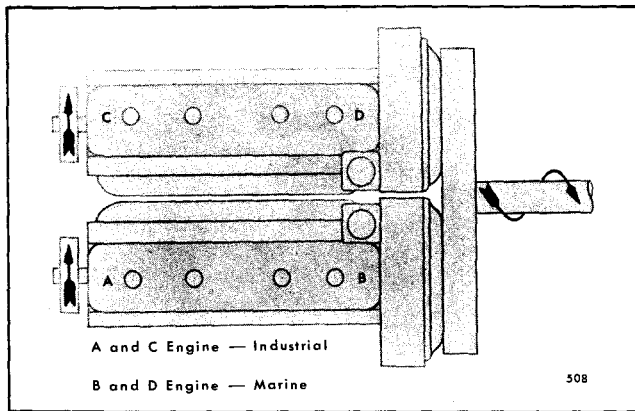

Fig. 3 - Typical Twin Engine Unit
A and C engines are used in the twin and quad industrial units and B and D engines are used in twin and quad marine units. Left-hand (LH) rotation is obtained at the power drive shaft with the arrangement shown in Figs. 3 and 4. Right-hand (RH) rotation at the power drive shaft is attained by reversing engine rotation with the same arrangement as shown in Figs. 3 and 4.